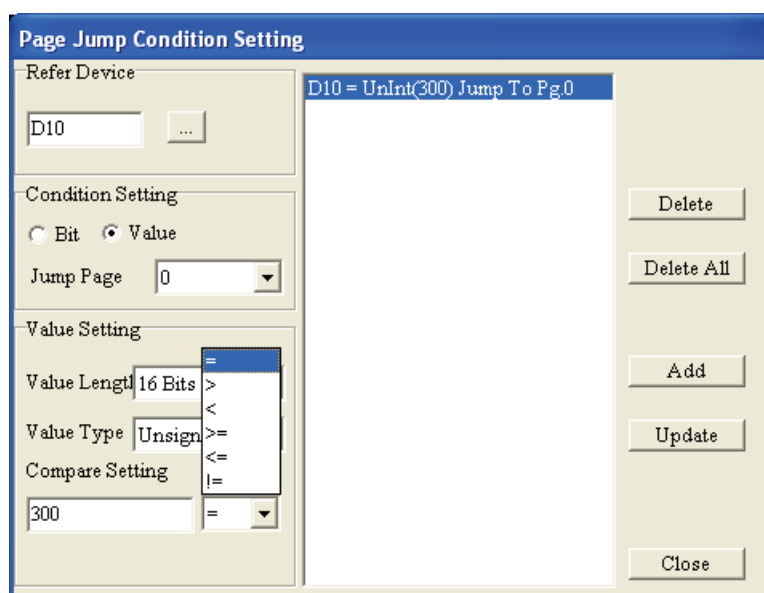

Figure 1-126
Step 5. In Value Setting option, the users can click  directly to choose the necessary Vale Length, Value Type and the condition of Compare Setting. Value Type could be Unsigned, Signed, Hex, BCD. Value Length could be either 16 bits or 32 bits. The condition of Compare Setting could be =, <, >, >=, <=, != (Figure 1-126). Please note that the Condition Setting option below Refer Device option is used to set the condition for jumping the pages between all pages and the Compare Setting in Value Setting option is used to set the comparison result of the value of Refer Device and the condition value as the condition for Jump Page.